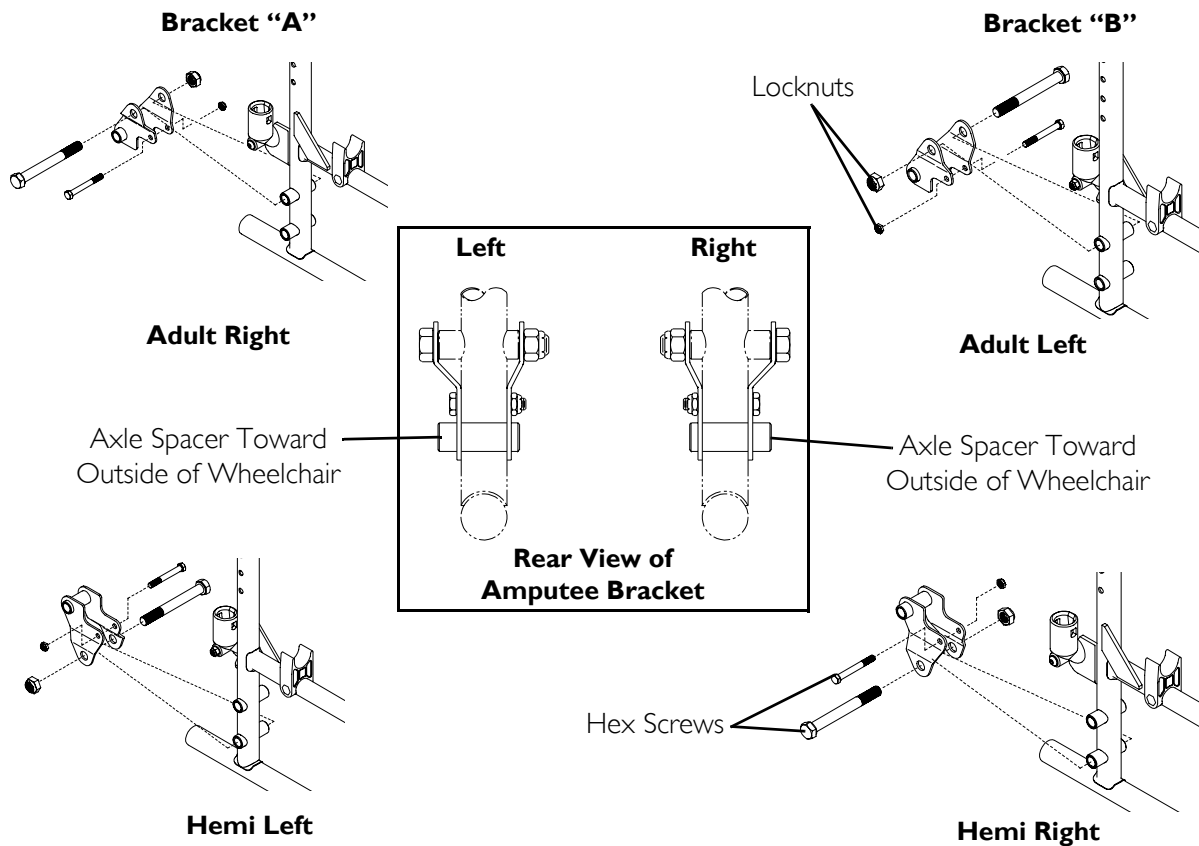

FIGURE 11.4 Installing Amputee Bracket - 9000SL/XT
NOTE: For this procedure, refer to FIGURE 11.4.
1. Refer to the following chart or FIGURE 11.4 to determine the mounting position of the amputee bracket: